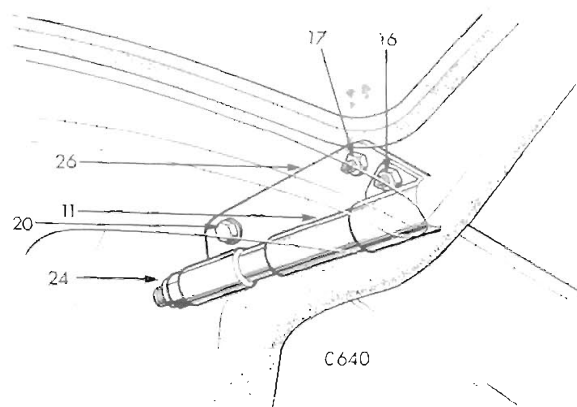

Fig. 69. Screen pillar fixing
Remove three bolts (22) with cover plates (21), one nut (24) with washer (25) from the bottom of each screen pillar (11). These nuts are accessible under the fascia, Fig. 69.